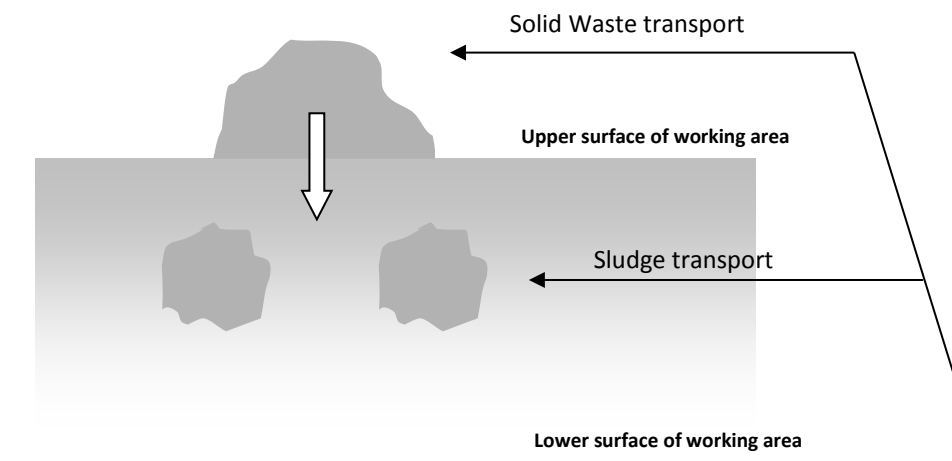

Figure 1: Deposit in different levels of sludge and waste mix
- Spreading and compacting by creating different levels of sludge/solid waste mix (see Figure 1)